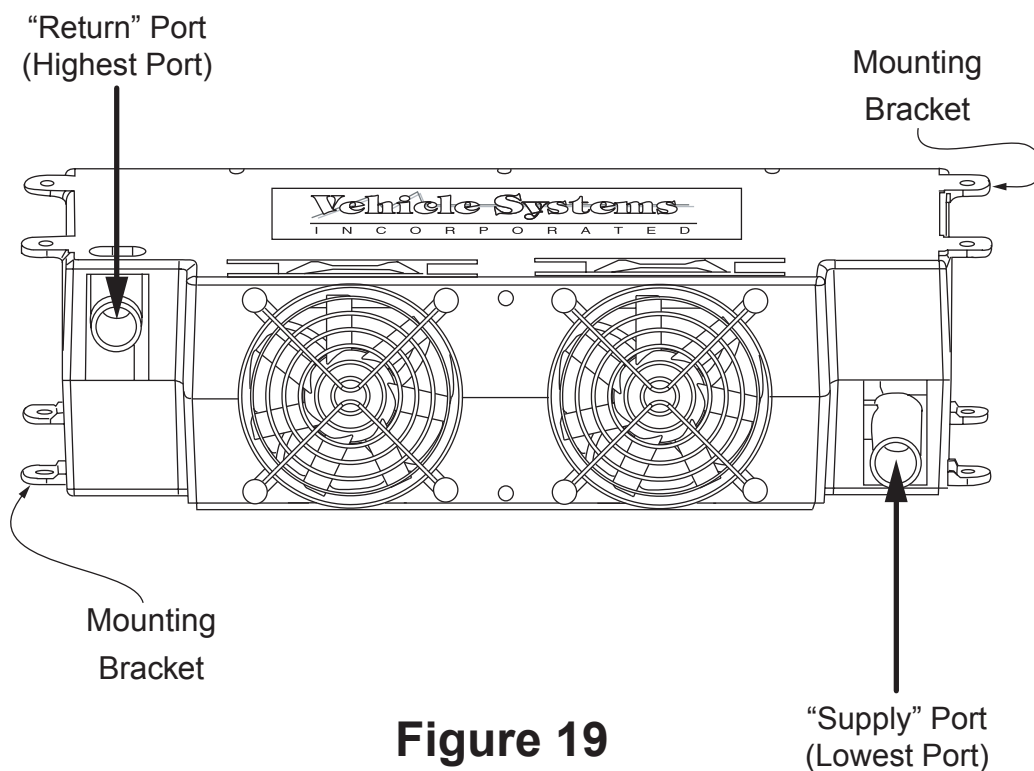

Figure 19
3. Connect and clamp the Supply line from the Heater to the lowest port on the closest Heat Exchanger for both Heating Loops; reference Figures 19 and 20. Then, connect each additional Heat Exchanger in the same arrangement (low to high).
4. Connect and clamp the Return line from the Heater to the highest port on the last Heat Exchanger for both Heating Loops; reference Figures 19 and 20.